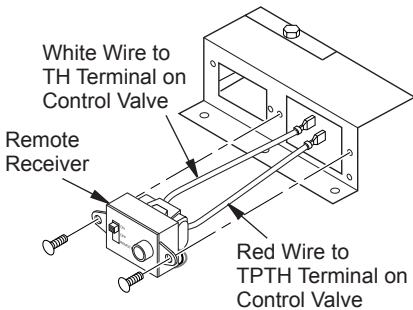

Figure 30 - Installing Remote Receiver
5. Connect wires from remote receiver to control valve as shown in Figure 30.
6. Install remote receiver unit onto remote/blower bracket using screws provided (see Figure 30).